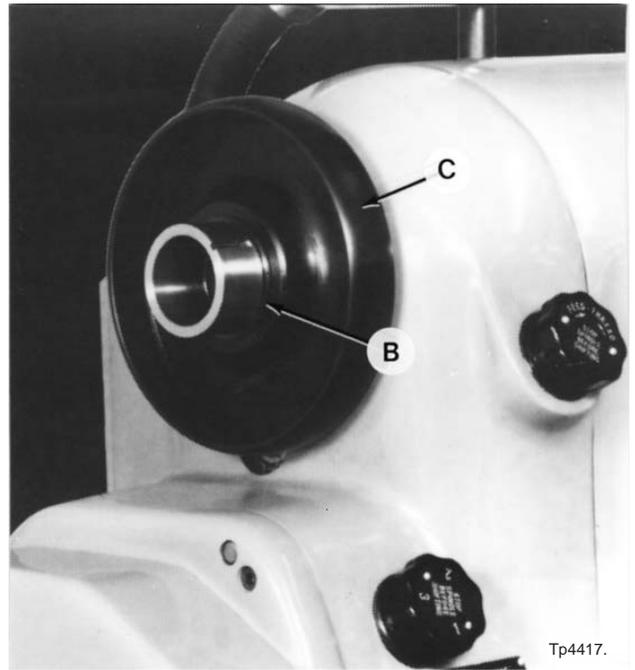

Figure 3.11 - Spindle Handwheel
23. Remove snap ring "B", Figure 3.11, and handwheel "C".
51. Replace handwheel "C", Figure 3.11, and snap ring "B".